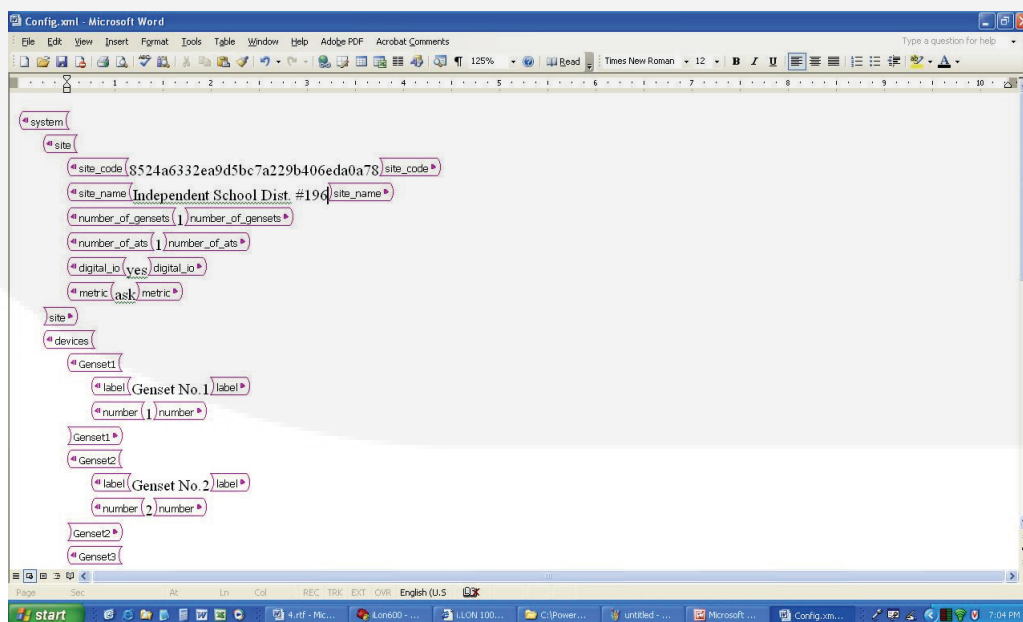

FIGURE 4-2. READY TO EDIT CONFIG.XML FILE
4. The word document will open (see Figure 4-2).
**NOTE:** If the document does not open as shown in Figure 4-2, or if you do not have Microsoft Word, the config.xml file can also be edited with either NotePad or WordPad. If you are not editing the file using one of these other